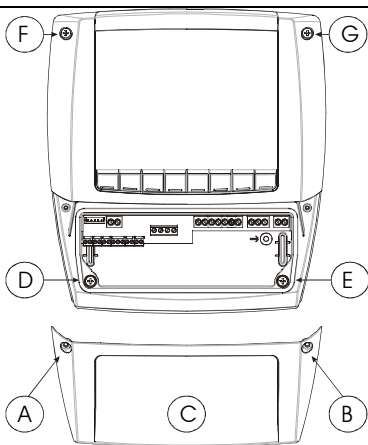

FIG. 1
2. Unscrew the 4 frontal screws (Fig. 1, A, B, F, G) and remove the cover (Fig. 1, C).
3. Unscrew the 2 screws (Fig. 1, D, E) that keep connected the frontal and lower parts of Cool Mate and separate the 2 parts.
8. Join the back and frontal parts, with the panel in the middle, and fix them screwing the 4 screws taken previously away (dimensions 4x35 mm), in the holes of Fig. 1, A, B, D, E. Maximum panel thickness: 6mm.